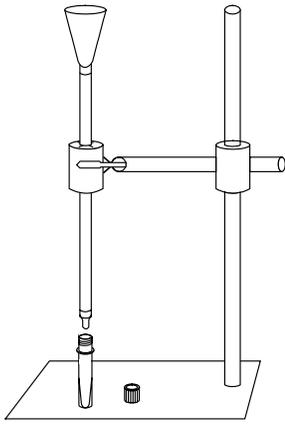

Figure 2. Column assembly.
- 2.1 Assemble the column and position it upright (see Figure 2): Attach a funnel to the top of a column. Gently insert the column through the X-cut in one of the provided foam holders to avoid damaging the column. Using the foam holder, secure the column with a clamp to a ringstand. Carefully remove the cap from the bottom of the column.